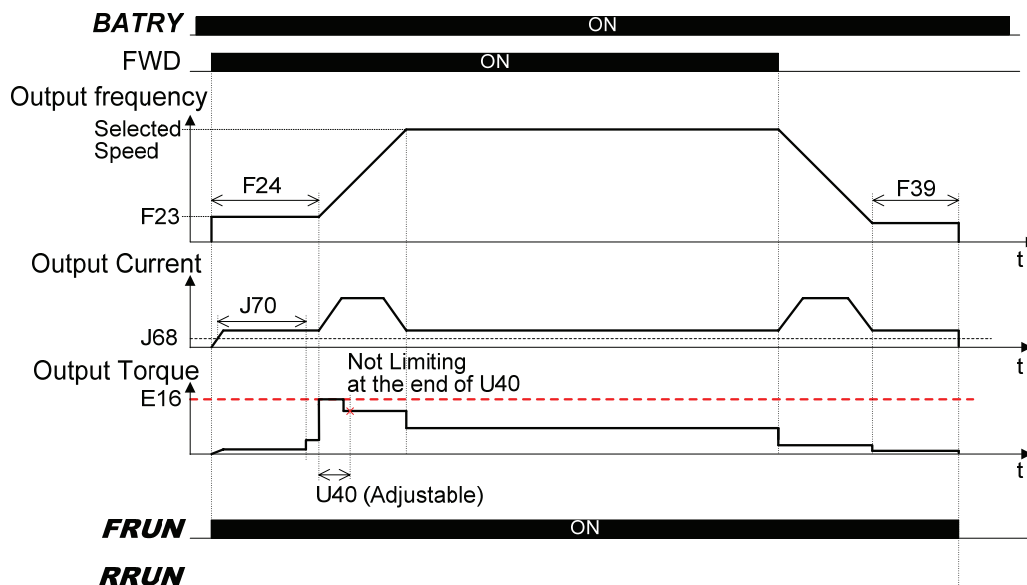

Figure 1: Behaviour when Torque Limit is not reached in FWD direction
- If, during FWD movement, the output torque limit previously defined is not reached then the inverter keep the motor turning until the input FWD is set to OFF again. The behaviour in this case is depicted in Figure 1.